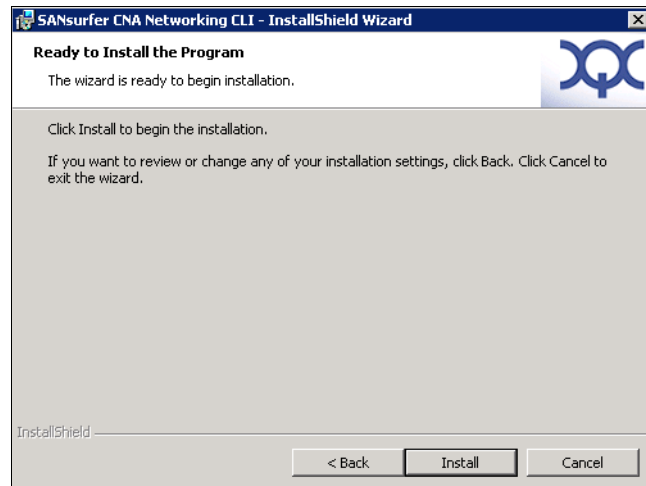

Figure 7-76 Ready to Install the Program panel
5. In the Ready to Install the Program panel (Figure 7-76), click **Install**.